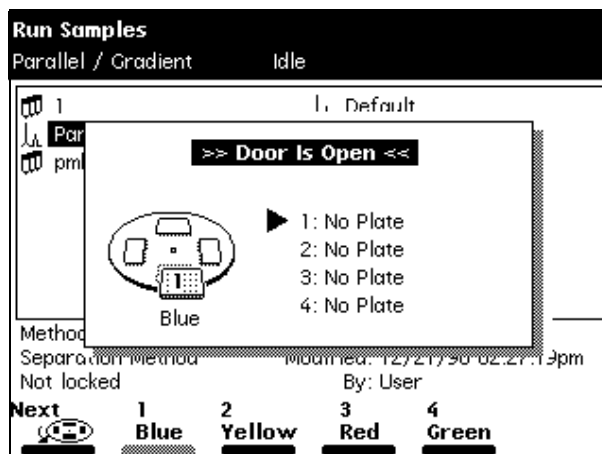

Figure 1-22 Door Is Open Dialog Box
To move the plate carrier from one position to the next, press the **Next** screen key or the press the color-coded plate number screen key in the Door Is Open dialog box (Figure 1-22).
1. Open the 2795 Separations Module sample compartment door. The Door Is Open dialog box appears (Figure 1-22).